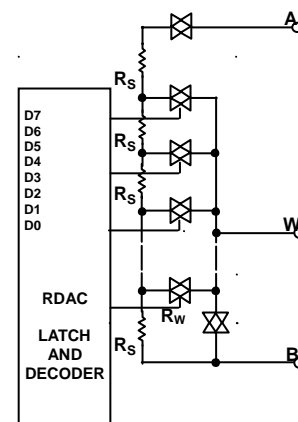

Figure 6. AD5290 Equivalent RDAC Circuit
The nominal resistance ( $R_{AB}$ ) of the RDAC has 256 contact points accessed by the wiper terminal, plus the B terminal contact if  $R_{WB}$  is considered. The 8-bit data in the RDAC latch is decoded to select one of the 256 settings. Assuming that a 10 k $\Omega$  part is used, the wiper's first connection starts at the B terminal for data 0x00. Such connection yields a minimum of 60  $\Omega$  resistance between terminals W and B because of the 60  $\Omega$  wiper contact resistance. The second connection is the first tap point, which corresponds to 99  $\Omega$  ( $R_{WB} = (1) \times R_{AB}/256 + R_W$ ) for data 0x01, and so on. Each LSB data value increase moves the wiper up the resistor ladder until the last tap point is reached at 10020  $\Omega$  ( $(255) \times R_{AB}/256 + R_W$ ). Figure 6 shows a simplified diagram of the equivalent RDAC circuit. The general equation determining  $R_{WB}$  is